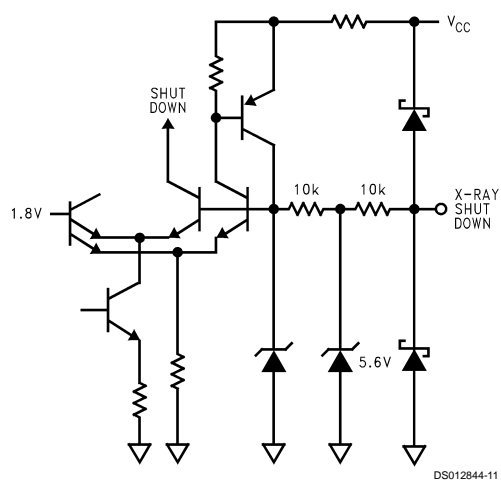

FIGURE 11.
**Pin 15—X-RAY SHUTDOWN:** This pin is for monitoring CRT anode voltage. If the input voltage exceeds an internal threshold, H DRIVE OUT (pin 19) is latched high and VIDEO MUTE (pin 4) is latched low.  $V_{CC}$  has to be reduced to below approximately 2V to clear the latched condition, i.e., power must be turned off. See *Figure 11* for the input schematic.